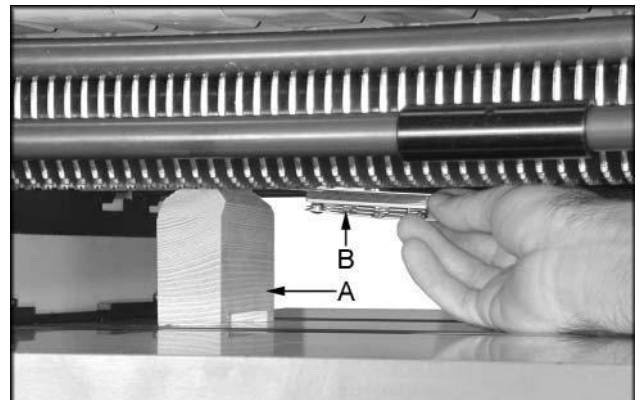

Fig. 14
2. Place a hard wood gauge (A, Fig 14) under a knife in cutterhead.
3. Place a 0.02" feeler gauge (B, Fig 14) on top of wood block and raise table until feeler gauge contacts the knife in its lowest position.
2. Place a hard wood gauge (A, Fig 14) under a knife in the cutterhead.
3. Place a 0.02" feeler gauge (B, Fig 14) on top of wood block and raise table until the gauge contacts the knife in its lowest position.